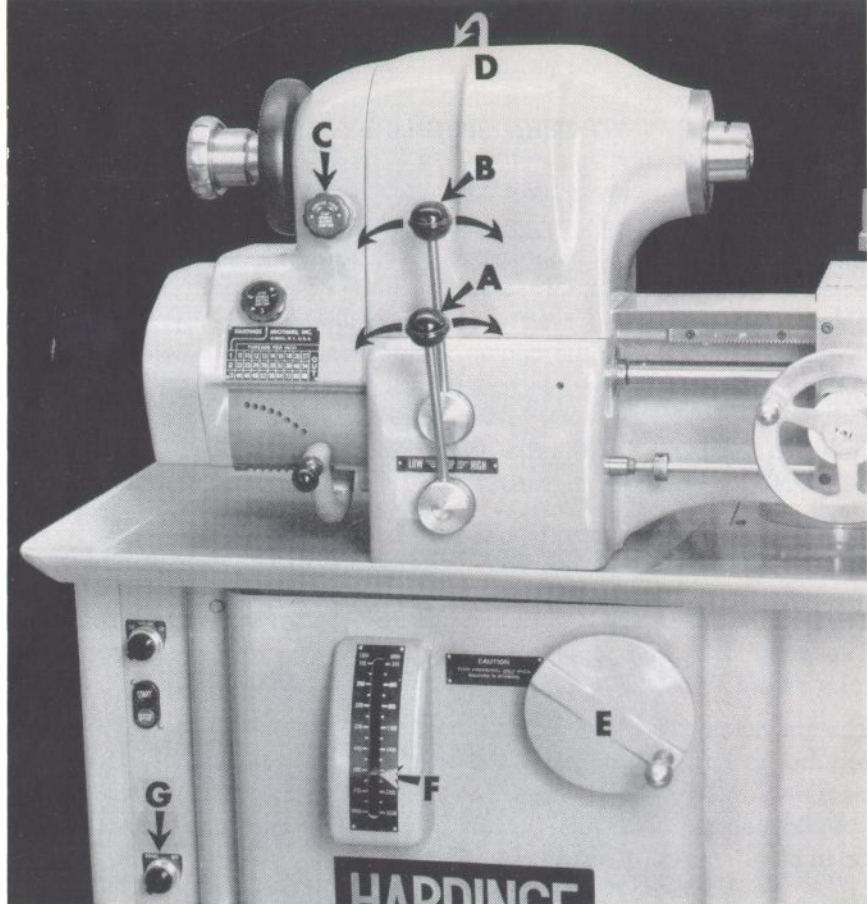
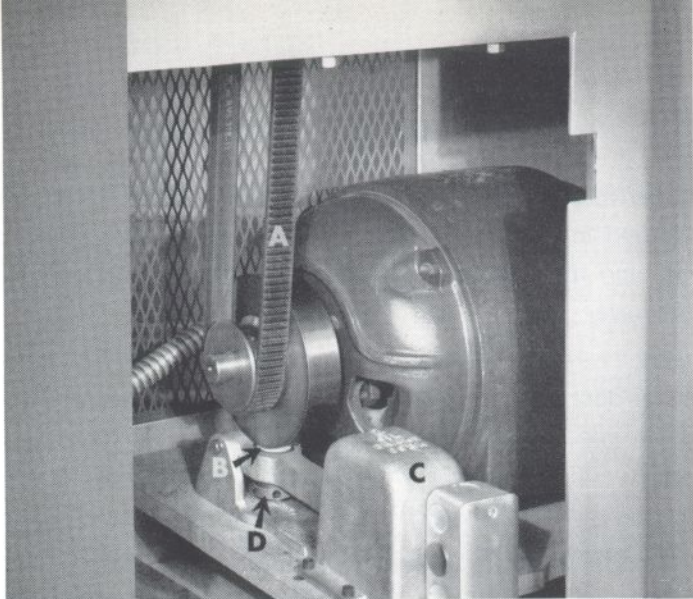

Figure 1
Figure 3
**ELECTRICAL CONNECTIONS.** Before proceeding read instructions "To Start and Stop Spindle" on Page 11. The machine is shipped completely wired and assembled. It is only necessary to run the electric power line to the bottom of the control panel and attach the wires to the terminal block in the panel. **BEFORE CHECKING ROTATION APPLY A COLLET TO THE MACHINE SPINDLE TO ANCHOR THE COLLET CLOSER OR DRAW SPINDLE IN PLACE, OR REMOVE THE COLLET CLOSER OR DRAW SPINDLE FROM THE HEADSTOCK SPINDLE.** See Page 17 for instructions on "How To Remove Collet Closer." Attach the power line to the terminal block in the control panel and check spindle rotation. Spindle should run in the forward direction when control lever "A", Figure 1, Page 11, is in either the left or right-hand position and forward-reverse selector switch at front of control panel is in Forward position.
**BE SURE SPINDLE LOCK PIN "D",** Figure 1, Page 11, **AT REAR OF HEADSTOCK IS IN THE "OUT" OR RELEASED POSITION BEFORE STARTING.** Electric power feed for carriage is connected to main control panel and does not require a separate power line.
## SPINDLE CONTROL LEVER — Figure 1
## THREADING CONTROL LEVER FOR CARRIAGE — Figure 1.
## GEAR BOX DISCONNECT KNOB — Figure 1.
## SPINDLE LOCK PIN — Figure 1.
#### TO START AND STOP SPINDLE — Figure 1.
When mounting spindle nose tooling or engaging the gear box it is sometimes desirable to rotate the headstock spindle by hand. Also, when setting up or chucking work which requires the work to be indicated for concentricity, the spindle should be turned by hand. To obtain a free spindle for easy turning of the spindle by hand, place lever "A", Figure 1, in the center or stop position. Turn selector switch "G" at the front of the electric control panel to the "OFF" position. Placing the selector switch in the "OFF" position energizes the brake solenoid releasing the spindle drive brake. Electric control panel must be "ON" for solenoid to work.
## VARIABLE SPEED DRIVE FOR SPINDLE — Figure 1.
Speed obtained is shown on spindle speed plate by pointer "F", Figure 1. The low speed range of 125 to 1000 r.p.m. is obtained from the variable speed drive when **LOW-HIGH** lever "A" is in the extreme left or "LOW" speed range position. The high speed range of 375 to 3000 r.p.m. is obtained when lever "A" is in the extreme right or "HIGH" speed range position.
The variable speed drive consists of a powerful two-speed electric motor connected to the spindle by two endless V-belts. One V-belt, **"A"**, Figure 3, runs from the motor to the variable speed driveshaft. The second V-belt runs from the driveshaft to the headstock. When it is necessary to replace a drive belt it is recommended that both belts be replaced for best performance. Belts should be purchased in matched sets from Hardinge Brothers, Inc.
### SPINDLE DRIVESHAFT BRAKE — Figure 3.
Spindle brake is designed for rapid but gradual stopping of the precision headstock spindle at all speeds. The **LOW-STOP-HIGH** Lever "A", Figure 1, controls the brake. The brake is moved away from the brake drum by a solenoid located directly in front of the motor pulley. The solenoid is accessible by removing cover "C", Figure 3. The brake cork "B", Figure 3, is forced against the brake drum by means of a powerful spring. The spring automatically compensates for cork wear. However, after considerable use it may be necessary to adjust the brake. This is easily done by placing the **LOW-STOP-HIGH** Lever "A", Figure 1, in the "STOP" position. Then, turn selector switch "G", Figure 1, to the "OFF" position, thus releasing the brake cork from the brake drum. With the brake in the released position turn threaded plunger "D" with 1/4" pin wrench until the cork touches the brake drum. Then back off one half turn until curve in top of cork is in a position to mate with curve of brake drum.